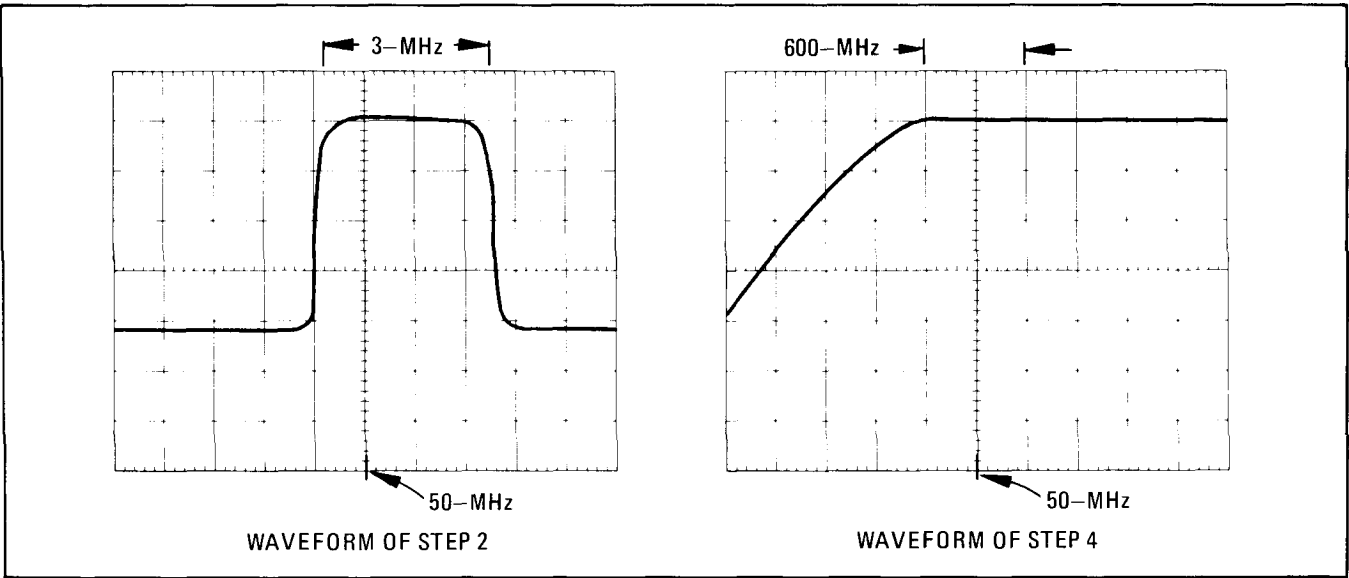

Figure 5-13. 50 MHz Bandpass Display for 10 MHz and 3 MHz Sweeps
POSITION (see Figure 5-13)
- 2. Adjust Generator/Sweeper and oscilloscope to display a 10 MHz swept signal centered on 50 MHz. (See Figure 5-13.)
- 4. Select 3 MHz sweep width on the HP 8601A and observe oscilloscope display for a bandpass as shown in Figure 5-13. Repeat Step 3 as required to obtain desired bandpass.